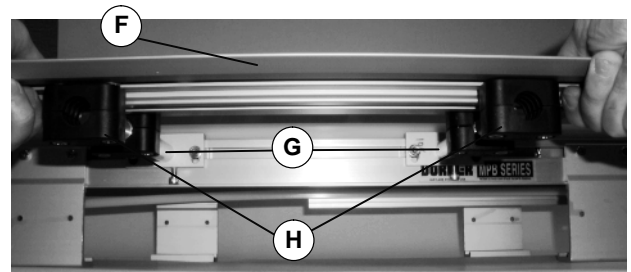

Figure 10
- Lift table (F of Figure 10) and slide clamps (H) on to support bars (G).